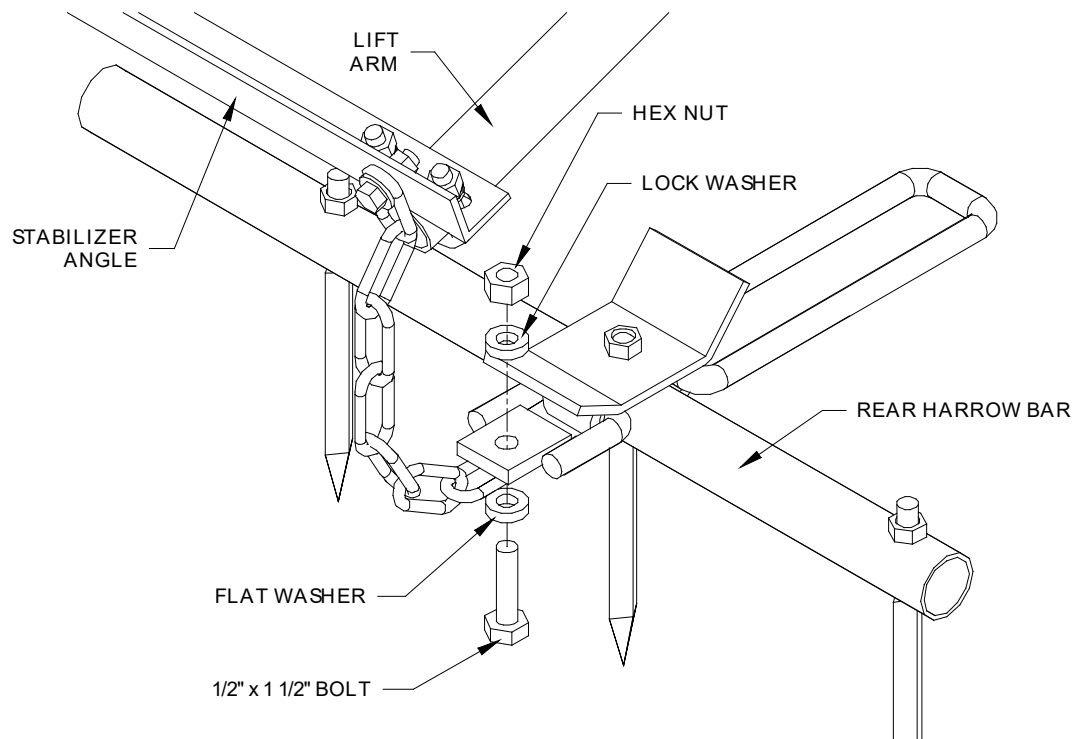

Figure 24
3. Attach the lift chains as shown in Figure 24; use a 1/2" x 1 1/2" bolt, flat washer, lock washer, and hex nut. Make sure the lift chains are not twisted, or binding may occur during transporting or when the harrow is being used in the fields.